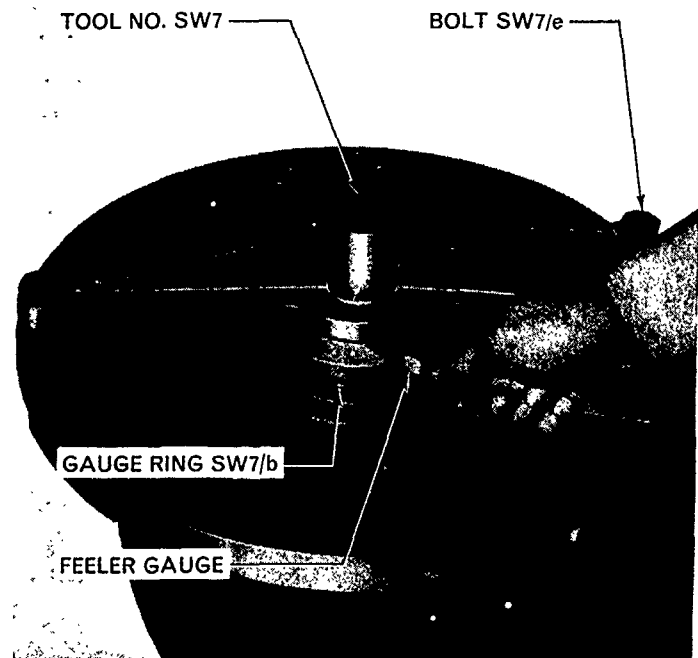

Figure 49
- e. Line up the pads of the bridge bar with three holes in the axle housing flange and, using the short bolts, Tool No. SW 7/e and nuts, bolt the bridge bar to the axle housing flange, Figure 49.
- f. Using feeler blades measure the gap between the bridge bar and the gauge ring, Figure 49.